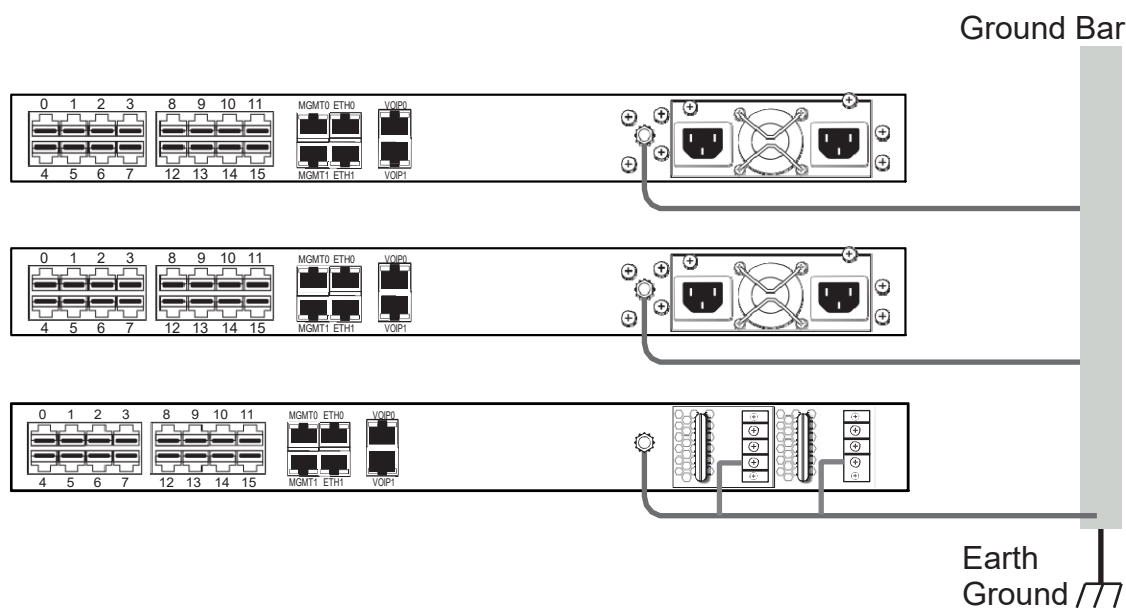

Figure 2.5
- Do NOT daisy chain the ground between equipment. Use a ground bus bar, as show in figure 2.5 on page 17.
1. Connect one end of a ground wire to the ground lug of the 800 series gateway. See figure 2.5 on page 17.